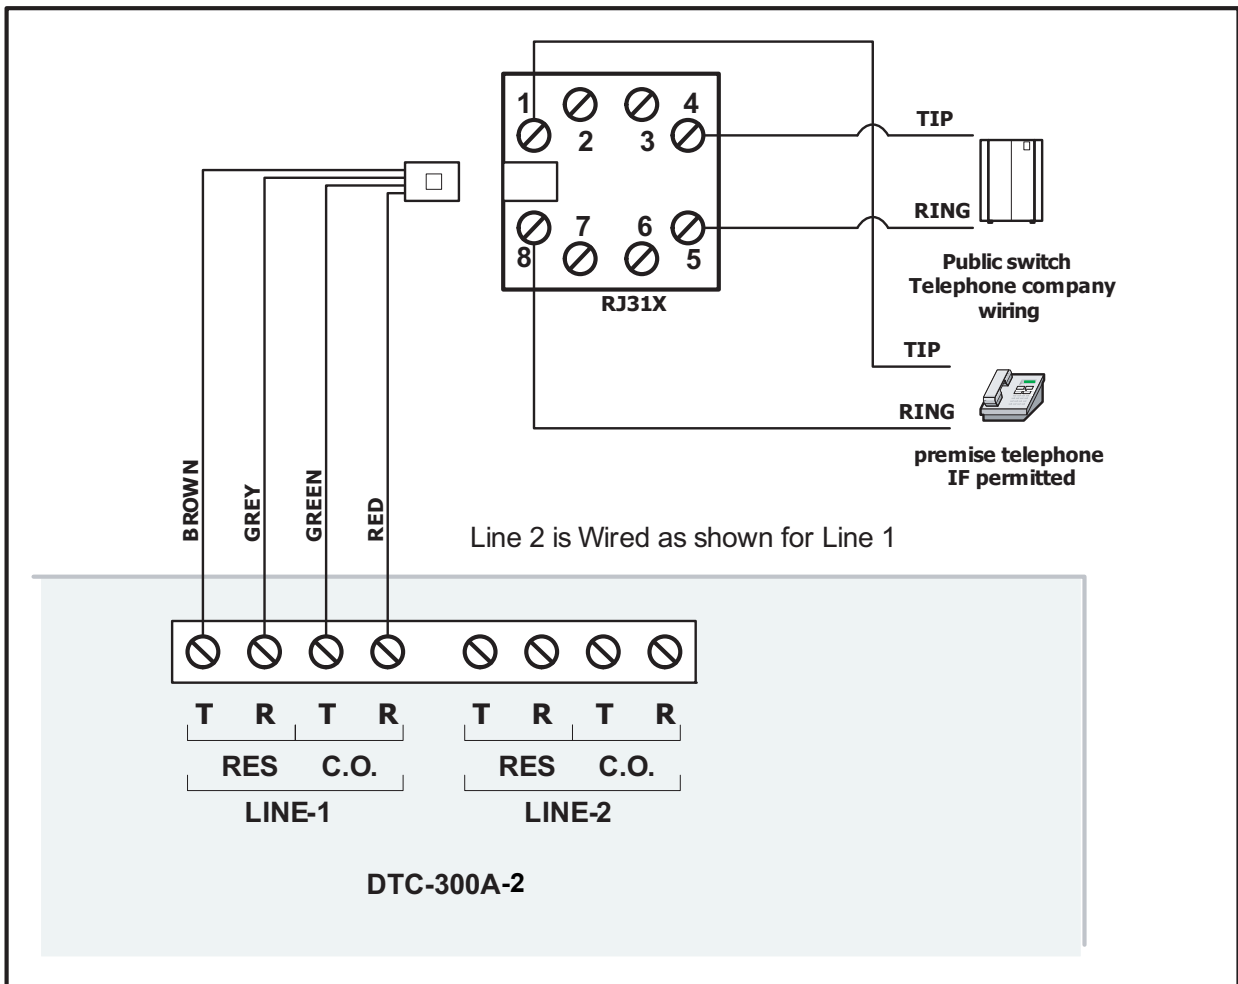

Figure 4 Telephone Line Wiring Diagram
Wire the two telephone lines to RJ31X Connector terminals as shown in Figure 4 below. The DTC-300A-2 telephone line terminals are located on the top left hand corner of the board.
2. Check that the telephone lines are connected as shown in Figure 4 or Figure 9.
3. Hook up the telephone lines and telephone as shown in Figure 4.